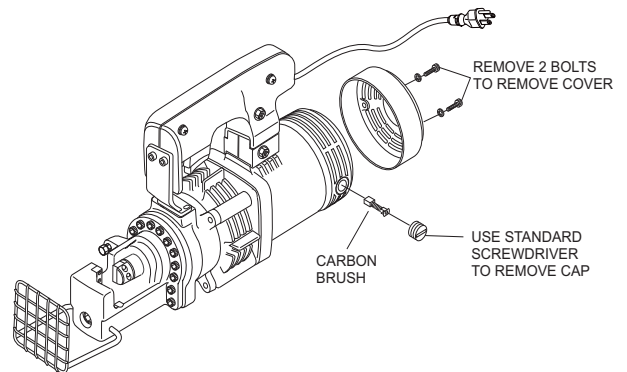

Figure 5. Replacing Carbon Brushes (HBC19B)
2. For the HBC19B, remove the 2 bolts holding the cover using a 4mm allen-head wrench then remove the cover to access the two carbon brush caps (one on each side). See Figure 5.
3. Remove the carbon brush cap of the motor outer frame using a standard screwdriver. See Figures 5 and 6.